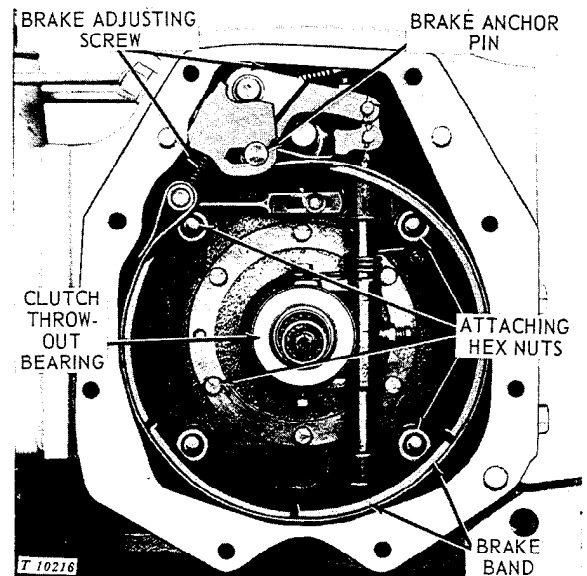
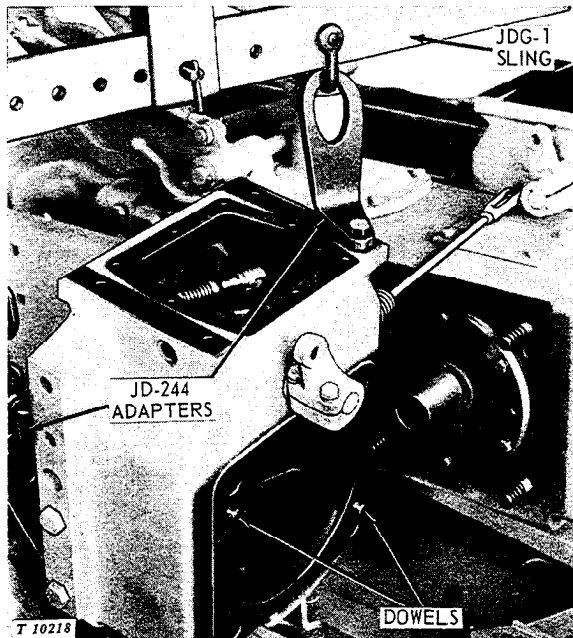
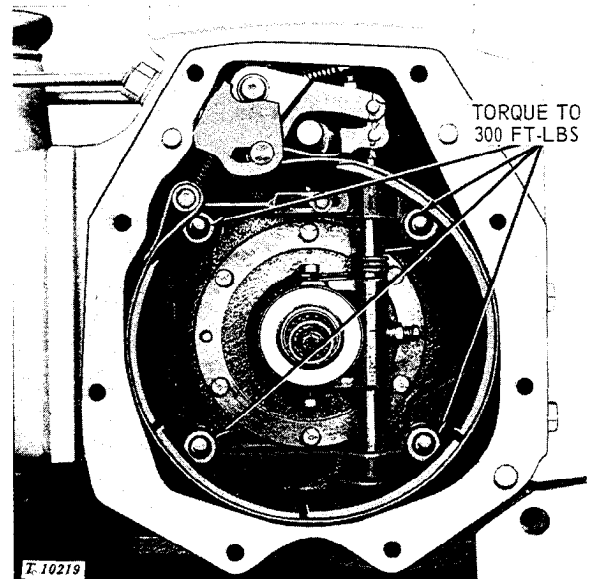

Fig. 20-20-3—Removing Brake Band
Fig. 20-20-5—Removing Steering Clutch Housing
Fig. 20-20-6—Torquing Steering Clutch Hex. Nuts
7. With final drive removed, detach brake anchor pin from brake anchor by removing cotter pin and washer (Fig. 20-20-3). Remove brake adjusting screw from brake band.
fork (Fig. 20-20-3). Slide clutch throw-out bearing and carrier off sleeve.
12. Secure JD-244 adapter tools to steering clutch housing as shown in Fig. 20-20-5.
13. Place JDG-1 sling on a hoist and attach sling to adapter tools as shown in Fig. 20-20-5.
14. Remove the four hex. nuts attaching steering clutch housing to transmission case (Fig. 20-20-3). Using hoist as shown in Fig. 20-20-5, remove housing from transmission case.
Before installing steering clutch housing, coat mounting surfaces with joint sealing compound. With the aid of hoist, sling, and adapters, position steering clutch housing on transmission case studs (Fig. 20-20-5). Be sure mounting dowels are in place on steering clutch housing. Install hex. nuts with washers on inner studs and tighten to 300 ft-lbs torque (Fig. 20-20-6).
Secure steering lever rod to yoke on steering shaft with pin and cotter pin (Fig. 20-20-6).
Install steering clutch throw-out bearing and carrier on sleeve (Fig. 20-20-6). Secure bearing carrier to clutch fork with two special cap screws. Hook clutch spring to upper carrier screw.